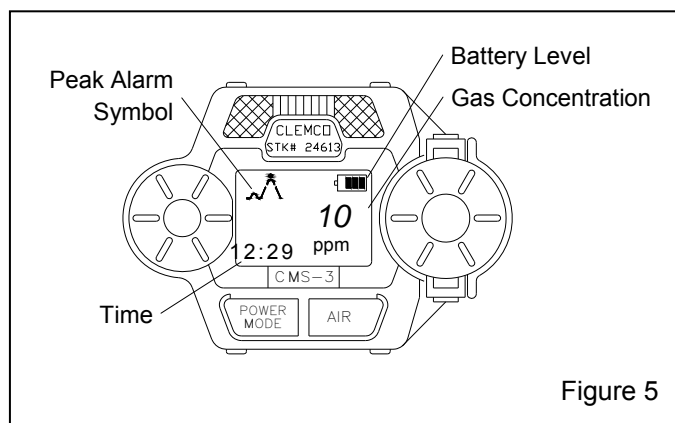

Figure 5
This section describes the normal operation of the CMS-3, and includes alarm indications. Ref. Figure 5
**3.6.5** The LCD should display the Low (LO) Alarm setting (10 ppm), the battery level, and peak alarm symbol as Shown in Figure 5. *NOTE: If the LCD shows "CAL" in the lower left corner, the CMS-3 is in Calibration Mode. Press and hold the POWER/MODE button to turn off the unit. Repeat the process beginning with Paragraph 3.6.2.*